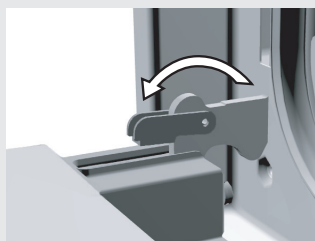

figure 1
- Fully open the oven door and rotate the stoppers all the way back – applies to conventional door closing (Figure 1).